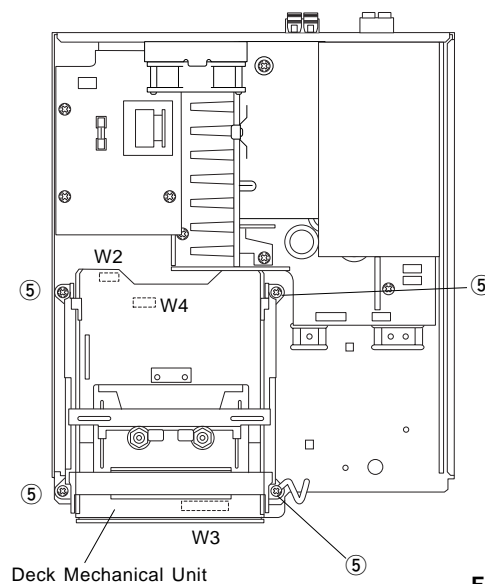

Fig. 3
- Remove 4 screws (⑤) and then remove the Deck Mechanical Unit in Fig. 3.
- Remove 3 connectors (W2, W3 and W4) in Fig. 3.